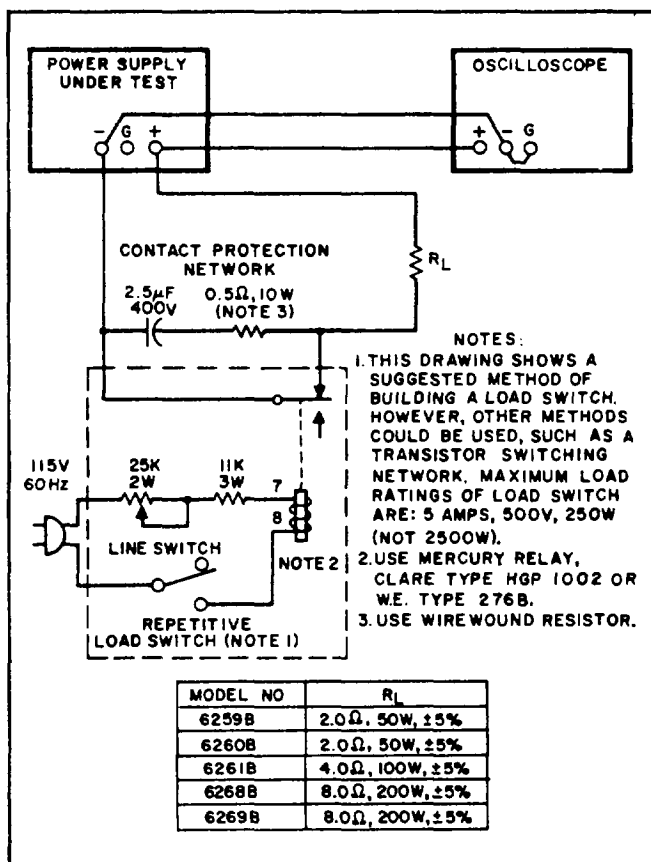

Figure 5-5. Transient Recovery Time Test Setup
5-30 A mercury-wetted relay, as connected in the load switching circuit of Figure 5-5 should be used for loading and unloading the supply. When this load switch is connected to a 60Hz ac input, the mercury-wetted relay will open and close 60 times per second. Adjustment of the 25K control permits adjustment of the duty cycle of the load current switching and reduction in jitter of the oscilloscope display.
5-31 The load resistances shown in Figure 5-5 are the minimum resistances that must be used in order to preserve the mercury-wetted relay contacts. Switching of larger load currents can be accomplished with mercury pool relays; with this technique fast rise times can still be obtained, but the large inertia of mercury pool relays limits the maximum repetition rate of load switching and makes the clear display of the transient recovery characteristic on oscilloscope more difficult.
- a. Connect test setup shown in Figure 5-5.